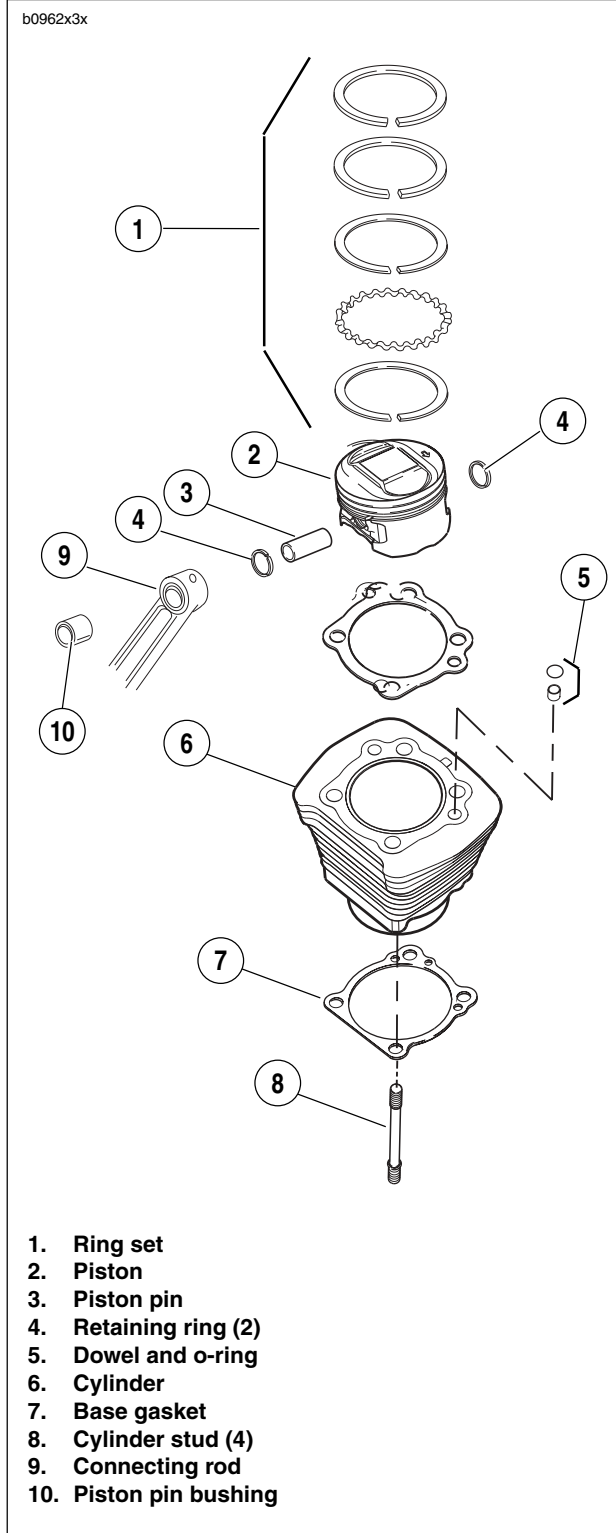

Figure 3-91. Cylinder and Piston
4. See Figure 3-91. Turn engine over until piston of cylinder being removed is at bottom of its stroke.